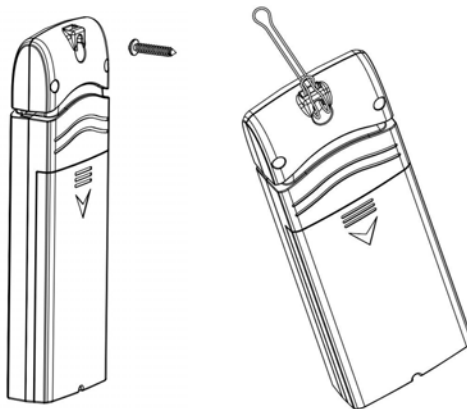

Figure 15: Indoor sensor mounting
- Use a screw or nail to affix the remote sensor to the wall, as shown on the left side of Figure 15, or
- Hang the remote sensor using a string, as shown in right side of Figure 15